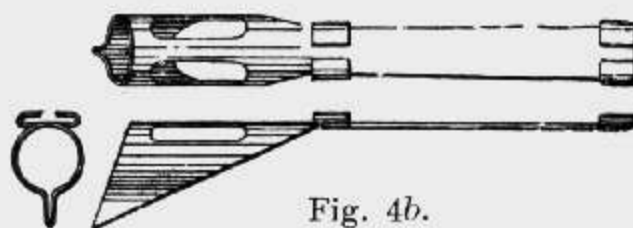

Fig. 4b.
- Register Pens, standard Weather Bureau pattern (Fig. 4b), for Single, Weekly, Double, Triple and Quadruple Registers, extra, each....\$